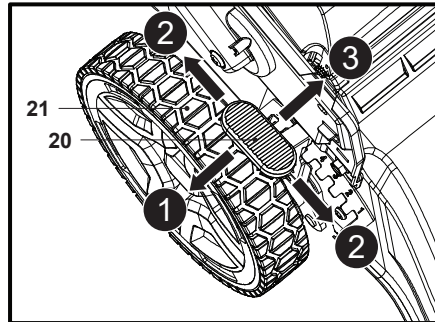

Fig. 11
1. Pull the lever (20) towards the rear wheel (21) (Fig. 11, step 1).
2. Move the lever (20) forward or backward to adjust the cutting height (Fig. 11, step 2).
3. Release the lever (20) and ensure it engaged in the slot properly (Fig. 11, step 3).